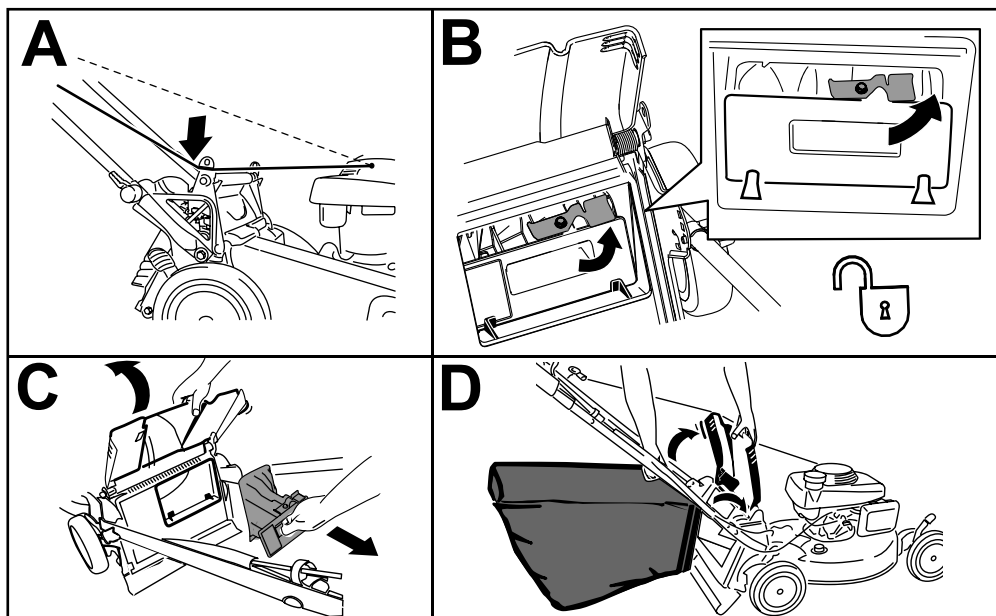

Figure 18
Note: To unlock the rear plug, rotate the lever on the plug to the right (Figure 18).
1. Route the starter rope around the lower-rope guide (A of Figure 18).
2. Raise and hold up the rear deflector and unlock the rear plug (B of Figure 18).
3. Pull out the rear plug (C of Figure 18).
4. Hang the upper front edge of the bag from the grass-bag pins on the notches of the handle brackets (D of Figure 18).